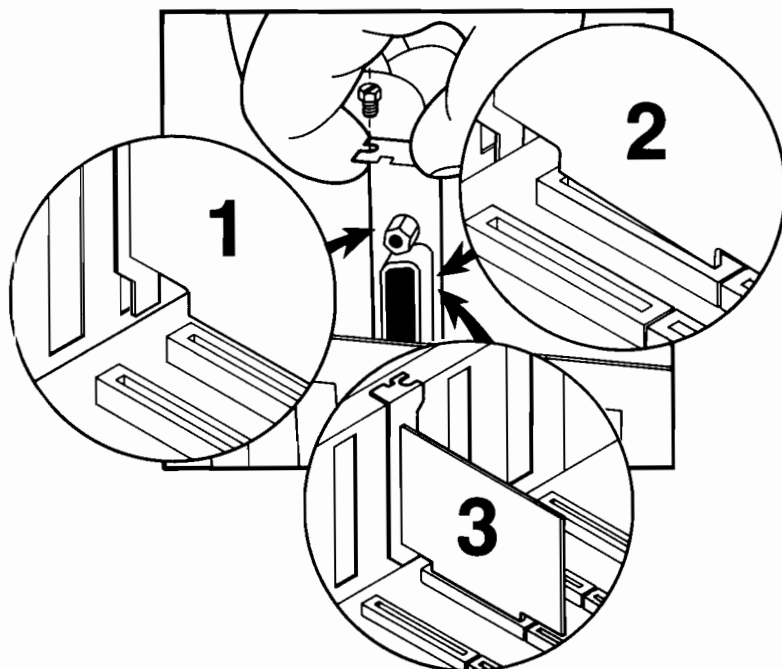

Figure 8. Installing the Card
7. Hold the card with the edge connector down and the cable connector toward the rear of the computer. Insert the plug in connector into the slot and press the card down firmly to make sure the connector is fully seated. (Figure 8.)